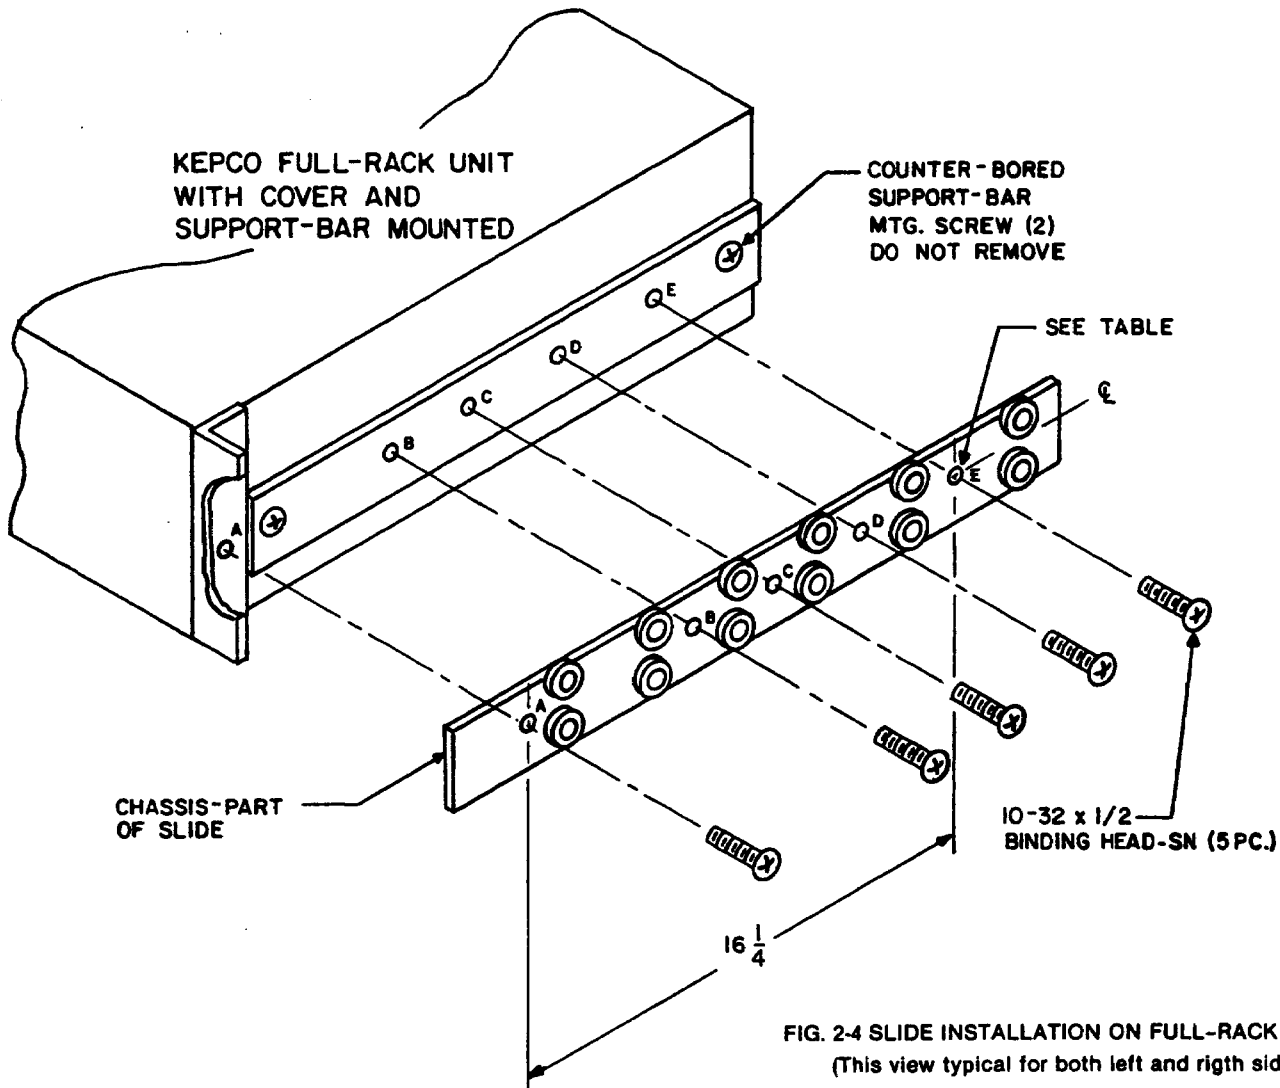

FIG. 2-4 SLIDE INSTALLATION ON FULL-RACK UNITS
2-12 INSTALLATION OF FULL-RACK BOP MODELS (Refer to Section I, Fig. 1-4 and to FIG. 2-4).
2-15 PROCEDURE (Refer to FIG. 2-4):
- 4) Mount the chassis section of the slide to the left and right side of the BOP, as shown in FIG. 2-4. Use the same 10-32 x 1/2" Mounting Screws which you removed in step (1).